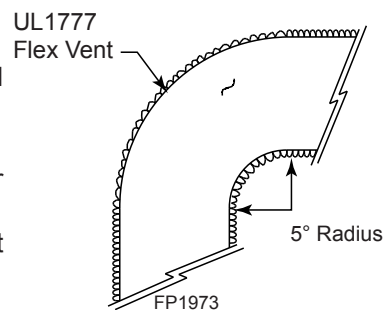

**Figure 27 -
3. Do not allow the flexible vent to bend in radius tighter than 5°. *Figure 27*